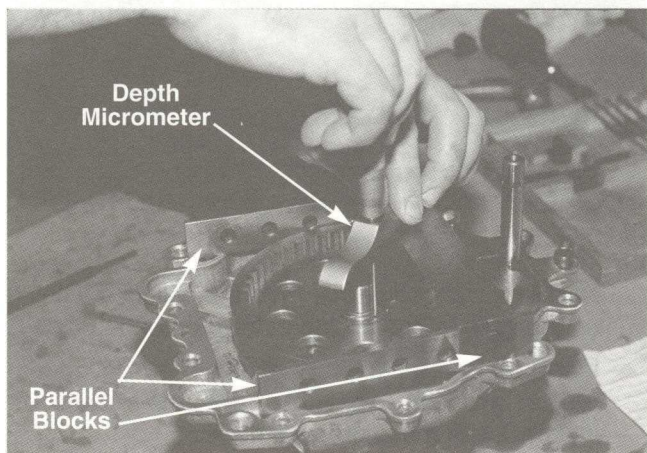

FIGURE 25.
25. Using parallels, measure the distance from the mating surface of the large housing down to the first shoulder on the axle shaft. Subtract the height of the parallels to arrive at the distance between the mating surface and shoulder. This measurement should be greater than the number for the smaller housing. See figure 25.